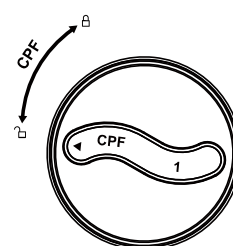

Figure 4
2. Insert the CPF Cartridge in lowest hole, the triangle icon on top of filter element should be pointed at the  icon(Figure 4).